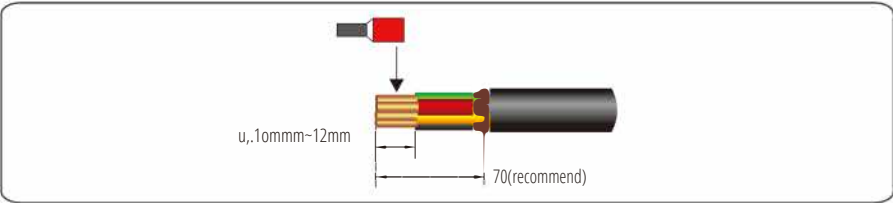

Figure 5.4 Stripped length (unit: mm)
Step 1 Remove an appropriate length of the jacket and insulation layer from the AC output cable using a wire stripper, as shown in Figure 5.4.